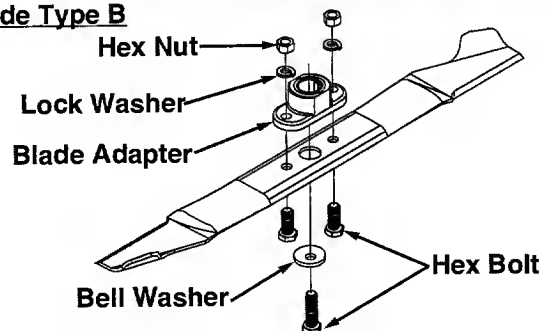

Figure 13B.
1. Assemble the blade adapter to the blade. See Figure 13B for proper order of hardware.